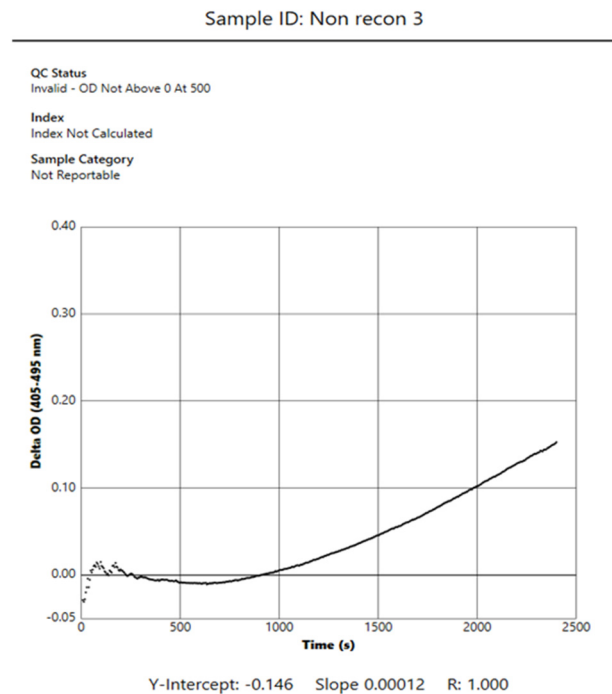

Figure 18. BG Analytics® Test Results Report for a Sample with Invalid QC Status – Kinetic Trace
- Plotted as Delta OD (405 —495 nm) vs. Time (s) with the Y-intercept, slope and R values determined between 1900 and 2400 seconds to allow further analysis of the sample (see **Section 8 Troubleshooting** for more information). An example of a sample with invalid QC Status is shown in Figure 18.